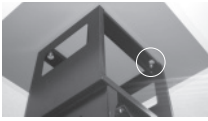

Fig. 1
- Fit the pegs and first of all screw two screws into the pegs (do not tighten completely). Hook the motor unit behind the two screws which are already in place (fig. 1). Centre the motor unit in relation to the hob. Ensure that the motor unit is aligned in relation to the hob as it hangs from the ceiling.